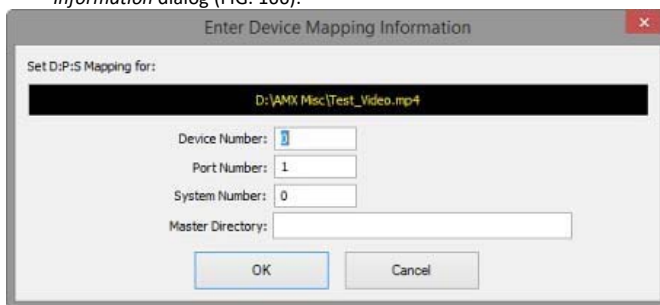

Fig. 166 NetLinx Studio 4 - Enter Device Mapping Information dialog
3. Click **Add** to select the video file you want to use: Select the video file in the *Open* dialog and click **OK** to invoke the *Enter Device Mapping Information* dialog (FIG. 166):